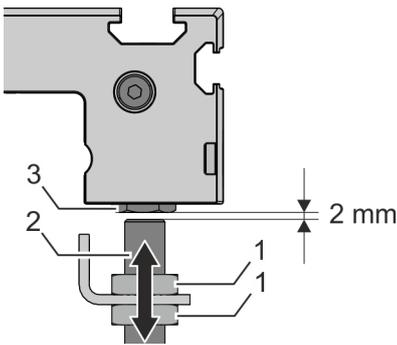

Fig. 40: Adjusting the operating distance
4. Use the hexagon nuts (Fig. 40/1) to set an operating distance of 2 mm between the inductive limit switch (Fig. 40/2) and the roller bolt (Fig. 40/3).